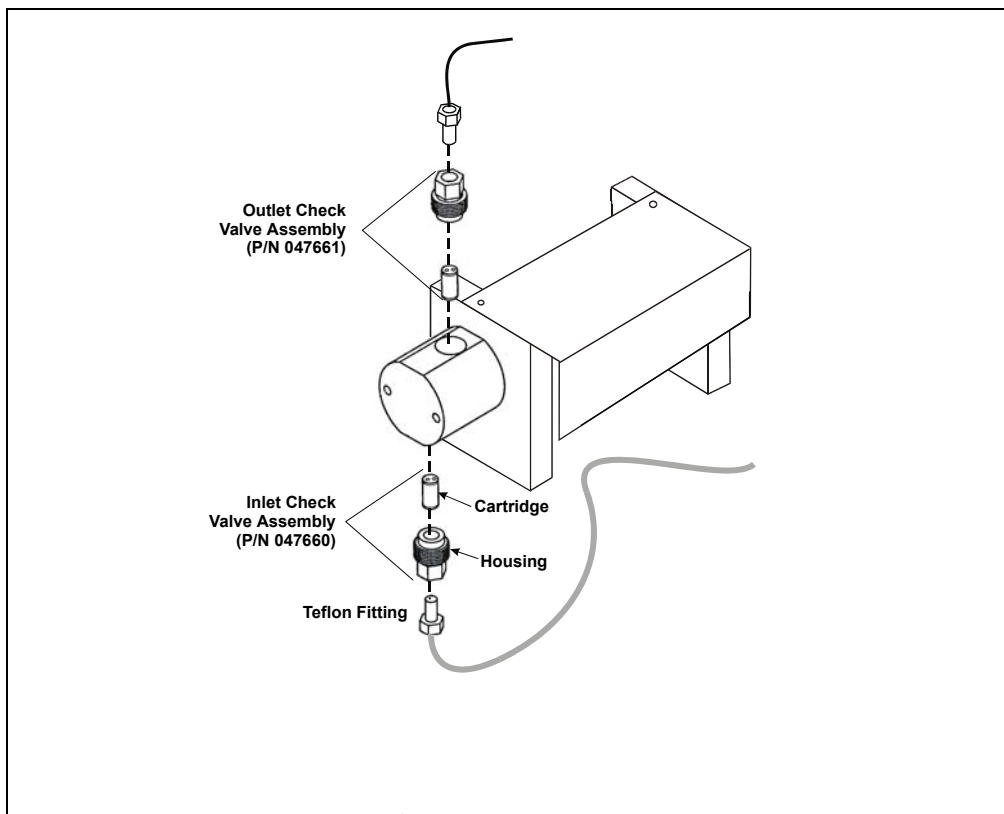

Figure 11-1. Precision Displacement Pump Check Valves
2. Disconnect the Teflon fitting from the inlet check valve (see Figure 11-1).